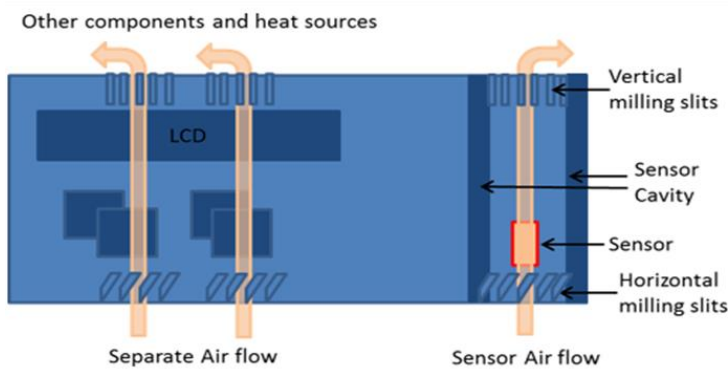
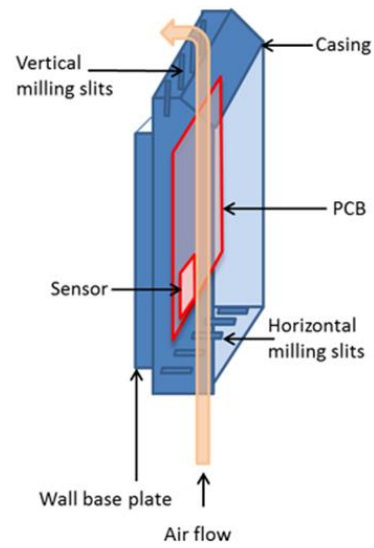

Figure 5: Guidelines for ENS21x(A) Chimney Design
Figure 6: Plastic Overhang with Vertical Milling Slits at the Top
3. Provide milling slits to remove heat from sources such as voltage convertors and LCD backlight preventing heated air to build-up within the casing as shown in figure 5.
7. If the casing is positioned up-right, locate the sensor as near to the bottom of the casing as possible to avoid exposure of airflow convection from heat sources, which is also shown in figure 6.
8. In general, if dust enters the casing it can potentially contaminate the open cavity of sensor and affect the accuracy of the relative humidity measurement. In order to prevent this, it is advised to use vertical milling slits at the top of the casing so that dust cannot enter directly from the top. Horizontal milling slits at the bottom can release any collected dust out of the casing by gravity. In this way the ambient air flow is safeguarded. See figure 5 and figure 6.